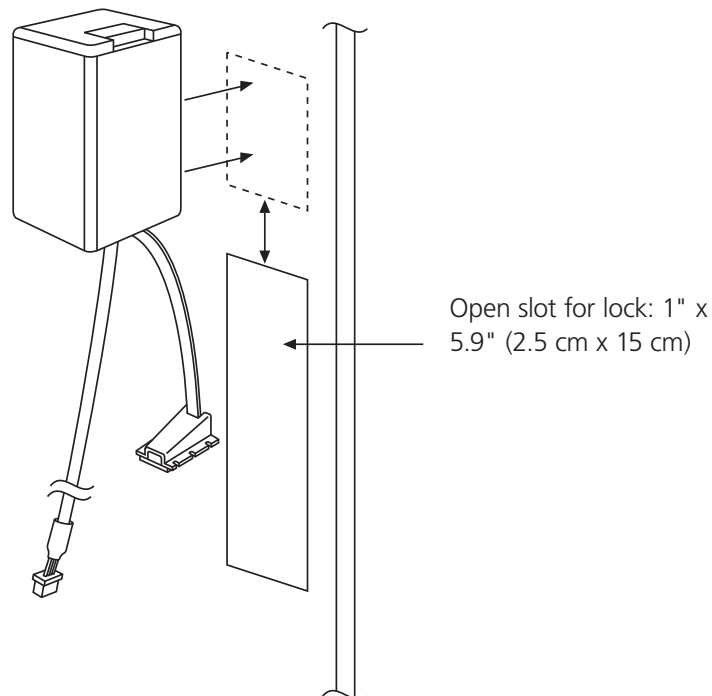

Figure 4. Apply pressure to the high-bond tape.
**IMPORTANT:** Make sure that the interface box is located close enough to the lock opening in the door, so that the finger sensor on the ribbon cable can go through the door and connect into the lock (see Figure 4).